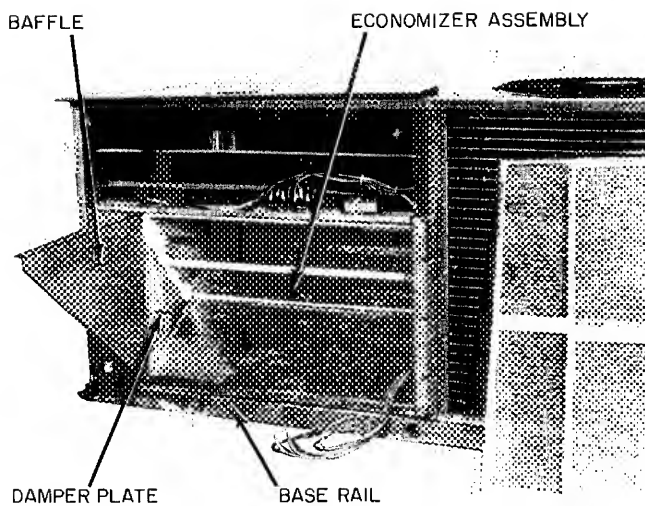

Fig. 26 — Baffle Installation Details (008 Units)
10. Fasten baffle to left side of damper plate with round head screws provided. See Fig. 26.